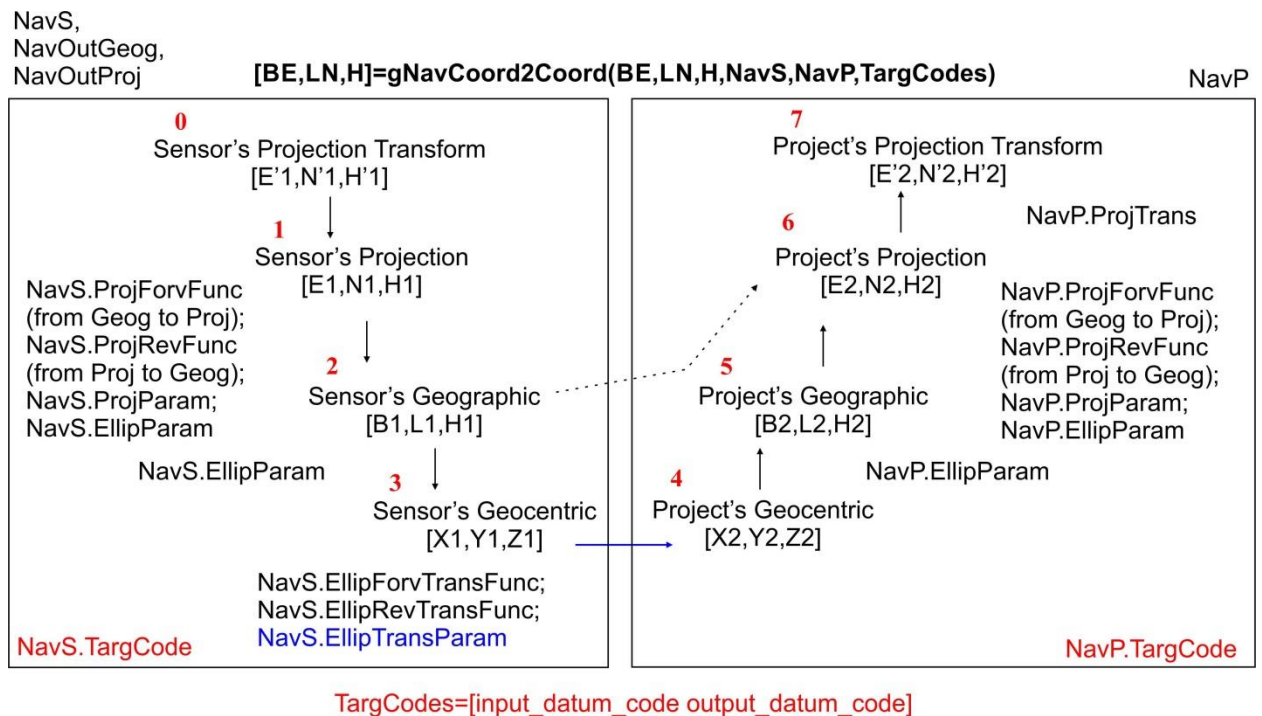

Figure 1.3 Coordinates re-calculation from ellipsoid_1 to ellipsoid_2 (red numbers are values for Nav.TargCode field)
The general function for coordinate's transformation is **gNavCoord2Coord**. The coordinate re-calculation scheme is showed in **Figure 1.3**. There are follow steps: transformed_rectangular-to-rectangular, rectangular-to-geographic, geographic-to-geocentric, geocentric_ellipsoide_1-to-geocentric_ellipsoide_2, geocentric-to-geographic, geographic-to-rectangular, rectangular-to-transformed_rectangular. Each step is defined using function and parameters. The sensor's datum fields are showed in **Table 1.5**; project's datum fields – in **Table 1.6**.
NavS.TargCode	Sensor’s datum code (see Figure 1.3).
NavP.TargCode	Project’s datum code (see Figure 1.3).
- **SHOM Options:** These are three custom calculation methods. The values are represented in Figure 1-3 .